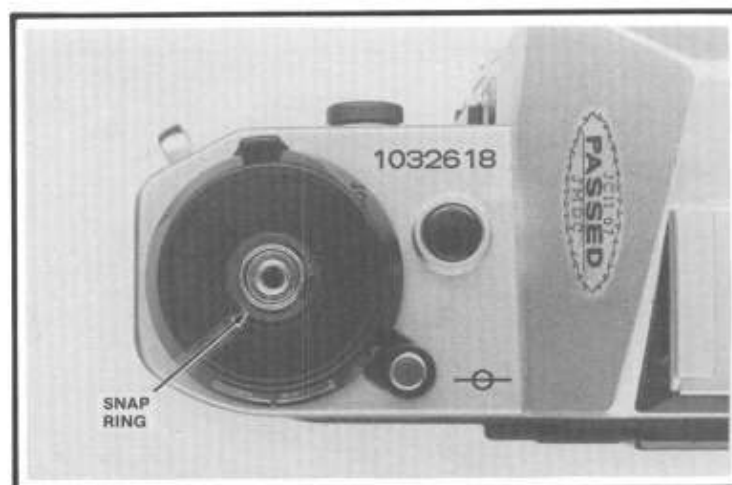

Figure 7
5. Set ASA 100. Remove the film-speed dial by taking off its snap ring, Fig. 7. Note that the film-speed dial is in two sections with a wave washer between the dial and the dial cover. Be careful to avoid turning the film-speed wiper, Fig. 8. You can then note the position of the film-speed wiper at ASA 100, the setting for exposure adjustments.